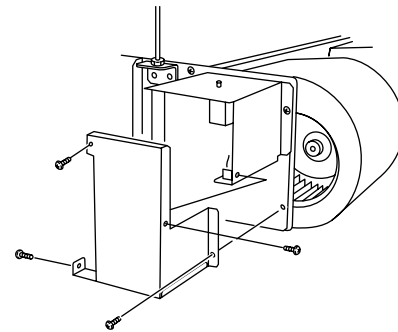

Fig. 6
- 1) Remove the 4 screws anchoring the electrical box cover, and open the cover. (Fig. 6)